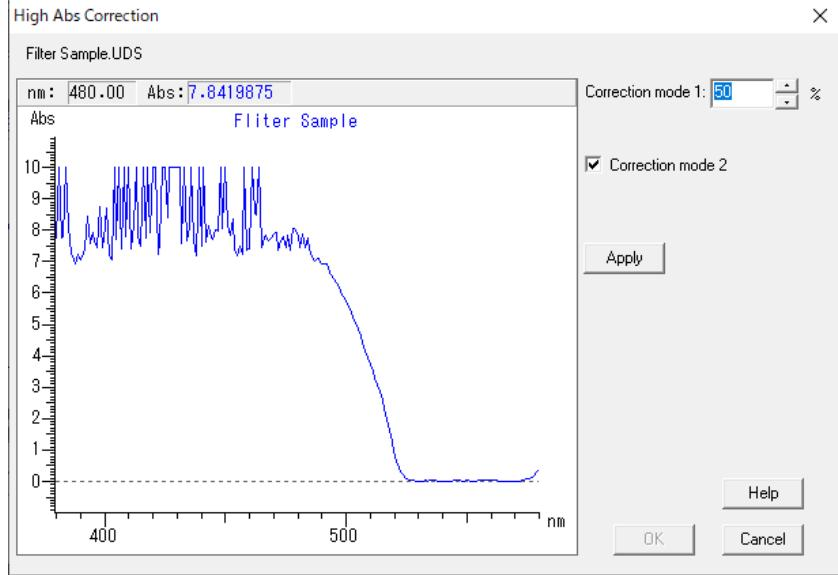

Fig. 5-97
A screen Figure 5-97 is appeared.
(2) Check the correction mode 2.
(3) Click the 'Apply' button. The corrected spectrum is displayed.
(4) Click the OK button to apply it to the spectrum. To recalculate, re-enter correction mode 1 and correction mode 2 and click the apply button.
(5) After calculation, click the OK button (Fig. 5-97). The high abs correction screen is closed, but the calculation results are memorized.
(6) If you click the (Reset)  button on the data processing toolbar while the data processing screen is displayed, the calculation result will be reset.